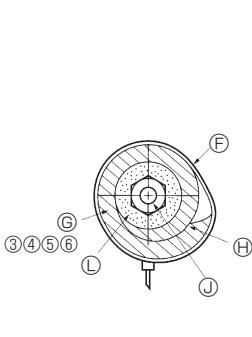
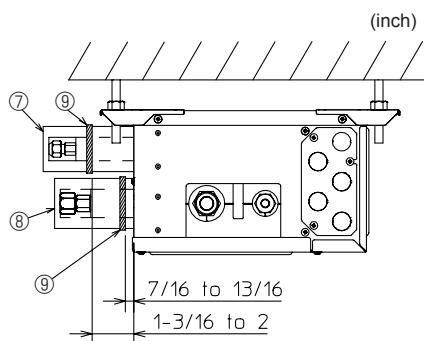

Fig. 7-3
Fig. 7-4
- (3) Connect the refrigerant piping immediately. Always tighten the flared nuts to the torque specified in the table 2 using a torque wrench and double spanner.
- (4) Press the pipe covers ③ and ⑤ on the liquid piping against the unit and wrap to hold in place. (Fig. 7-3)
- (5) Press the pipe covers ④ and ⑥ on the gas piping against the unit and wrap to hold in place. (Fig. 7-3)
- (6) Apply the supplied bands ⑨ at a position 7/16-13/16 inch (10 - 20 mm) from each end of the pipe covers (③④⑤⑥).
- (7) If the indoor unit is not connected, fit the supplied pipe covers (with caps, ⑦ and ⑧) to the branch box refrigerant piping connections against the unit to prevent condensation dripping from the pipes. (Fig. 7-4)
- (8) Clamp the pipe covers (⑦⑧) in place with the supplied bands ⑩.
- ⑤ Band ⑨
- ⑥ Pipe covers ③④⑤⑥
- ⑦ Tighten
- ⑧ Refrigerant piping
- ⑨ Thermal insulation for refrigerant piping
► Use the following procedures for indoor connection part which indoor unit is not connected. (Fig. 7-4)
- (1) In order to prevent refrigerant leaks, make sure that the flare nuts are tightened according to the specified torques* in Table 3.
- (2) In order to prevent condensation, install the pipe covers ⑦ ⑧ against the unit and fasten them with the supplied bands ⑨ .